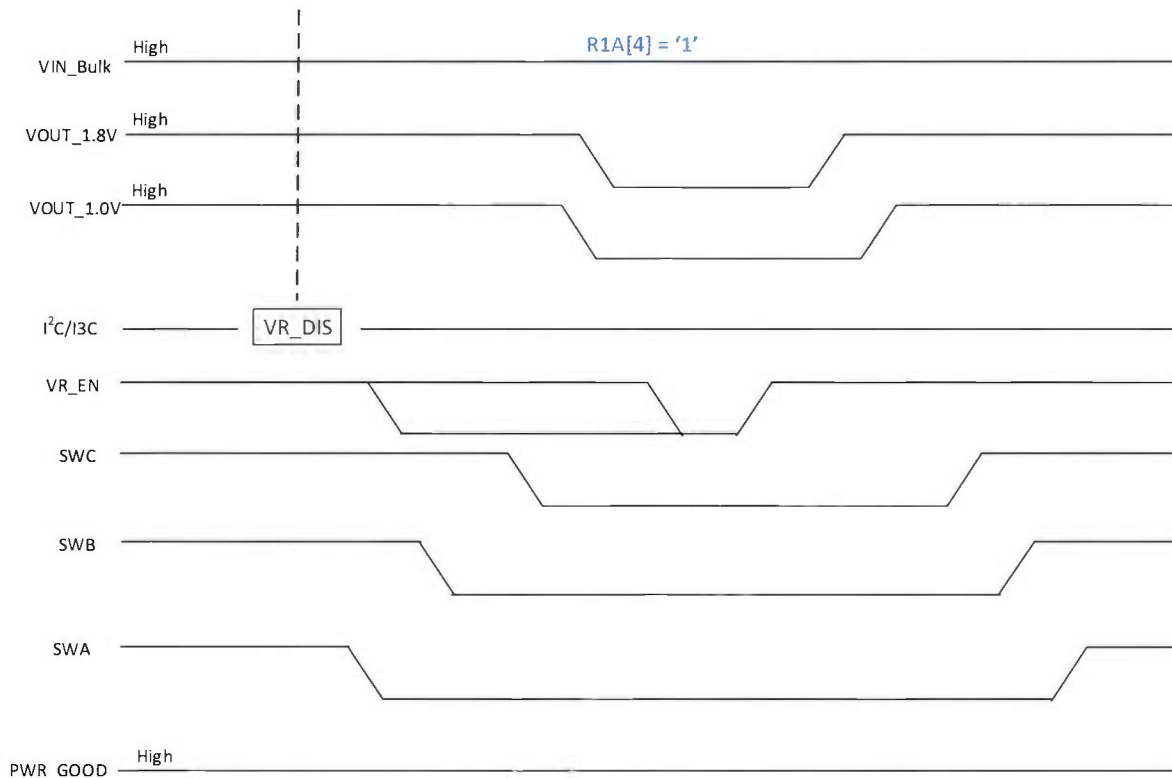

Figure 28 — Power Down with VR_DIS; R1A[4]=1; Programmable Mode; PWR_GOOD Signal
- b. If VR Disable command on a I²C/I³C Basic Bus (i.e., Table 146, Register 0x32 [7] = '0'), PMIC keeps the PWR_GOOD signal floating because this is an intentional command from the host and not a fault condition. The PMIC exits from P1 state with only VR_EN pin transition to High. The host can re-enable the PMIC's output regulators by VR_EN pin transition to High and PMIC executes power on sequence config 0 to power on sequence config 2 registers. The PMIC continues to float PWR_GOOD signal until tPMIC_PWR_GOOD_OUT timing parameter is satisfied and at that point PMIC assumes normal control of PWR_GOOD signal. See Figure 28. The PMIC does not require power cycle.
2. Configuring one or more bits in Table 143, Register 0x2F [6,4:3] to '0' in any specific sequence that is desired by the host. The PMIC does not execute power off sequence config0 (Table 176, Register 0x58) to power off sequence config2 (Table 178, Register 0x5A.) on its own. The PMIC keeps the PWR_GOOD signal floating because this is intentional command from the host and not a fault condition. Note that host can re-enable any of disabled output regulators by configuring one or more bits in Table 143, Register 0x2F [6,4:3] to '1' in any specific sequence that is desired by the host. The PMIC keeps the PWR_GOOD signal floating. The PWR_GOOD signal behavior is same as in Figure 28.